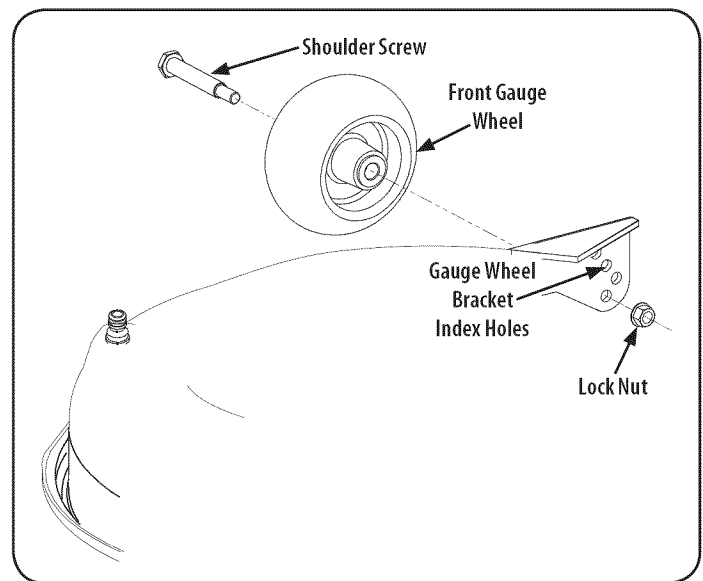

Figure 38
- Remove the flange lock nut securing the front gauge wheel shoulder bolt to the deck. Remove the gauge wheel and shoulder bolt. Refer to Figure 38.